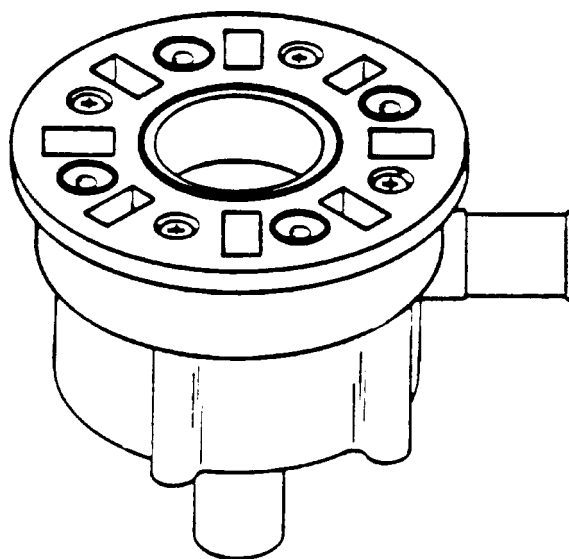

Figure 5-2, Recirculation Pump Head, Early Style (Up to S/N 8723)
The circulation pumps are easily removed for cleaning and/or servicing. For the early style pump (Figure 5-2, Serial #'s below 8724), proceed as follows:
NOTE: There are five “O” rings between the bottom of the tank and the mounting surface of the pump (see Figure 5-2). Be sure to locate and save all 5 “O” rings when removing the pump.
- 1) Remove the four pump head assembly screws, (Figure 5-2).